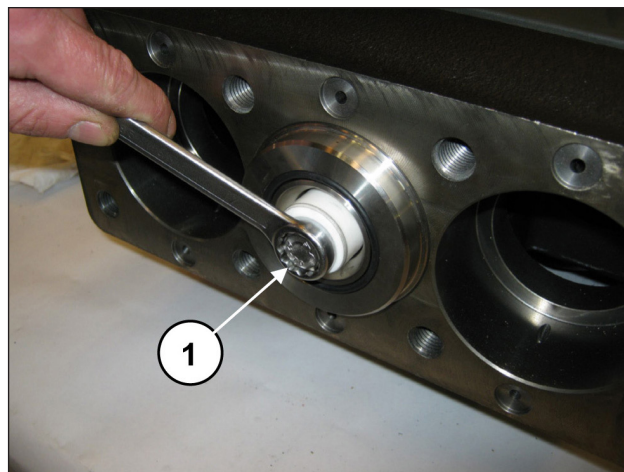

Fig. 172
Disassemble the pistons by unscrewing the fixing screws (pos. ①, Fig. 172).